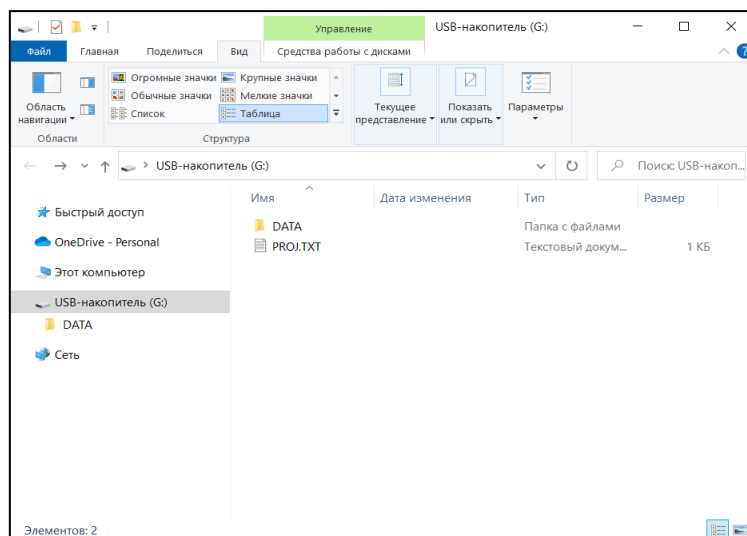

Figure 122 SmartMag root folder
4.2.2 Connect the SmartMag unit to PC according to paragraph 3.7.1. of this Manual. After the computer detects SmartMag magnetometer, a window with the folder and data files stored (Figure 122) will appear on the computer screen, and the message “USB Mass storage ...” will be displayed on magnetometer.